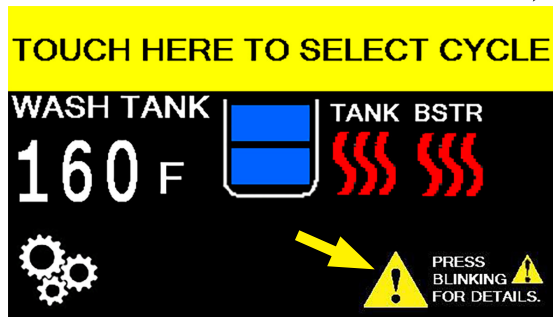

Fig.15b - Main screen - normal operation with error icon
3. If the drain fault is corrected, then the machine will resume normal operation; however, if the fault is not corrected, the machine will resume normal operation with the blinking icon as a reminder the machine is running in a drain fault condition and requires repair, (Fig.15b).